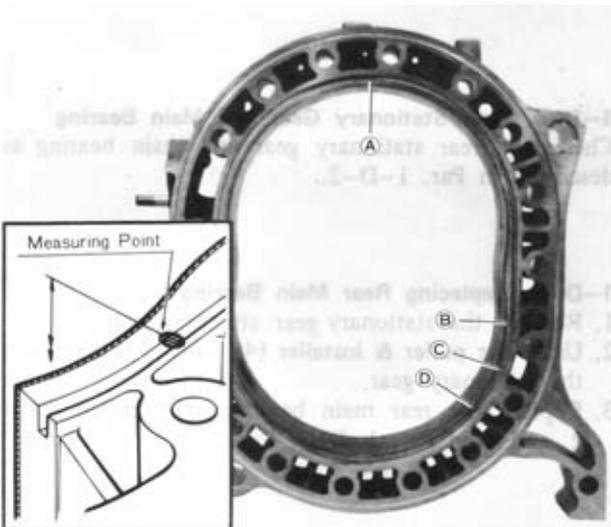

Fig. 1-58
3. Check the clearance between the side housing and rotor by measuring the rotor housing width \textcircled{A} (see Fig. 1-58) and the maximum rotor width. The rotor width should be measured at **three points**.
To check, measure the spex seal length with a micrometer. Compare the measured apex seal length with the rotor housing width $\text{\textcircled{A}}$ (see Fig. 1-58).